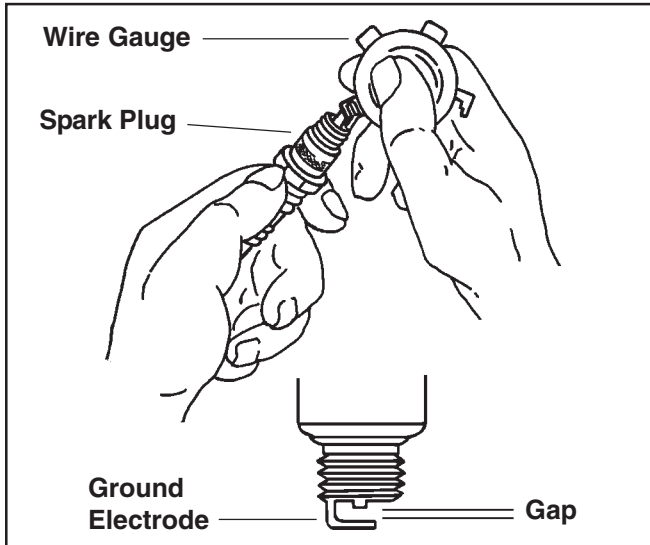

Figure 10. Servicing Spark Plug.
3. Check the gap using a wire feeler gauge. Adjust the gap by carefully bending the ground electrode. See Figure 10. Gap CV11-15, CV460, and CV490 plugs to 1.0 mm (0.040 in.). Gap CV16 plugs to 0.76 mm (0.030 in.).